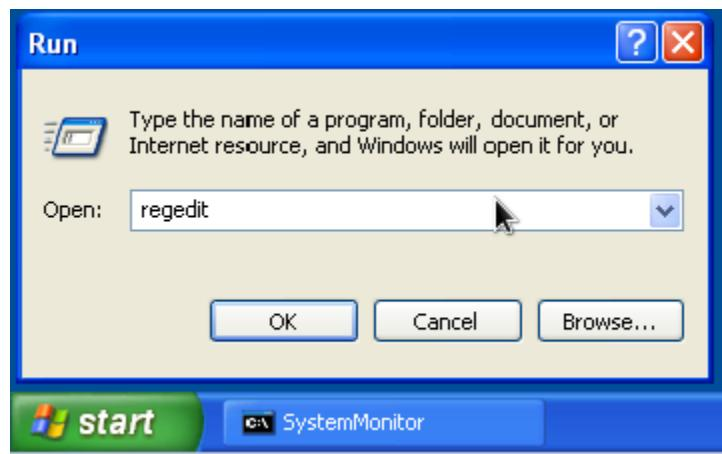

Figure 6-9
26. Click on the "Start" menu on the Windows desktop that you see, and click on the "Run" option. A dialog will appear, prompting you to enter an application name. Type: `regedit` in the entry field (Figure 6-9).